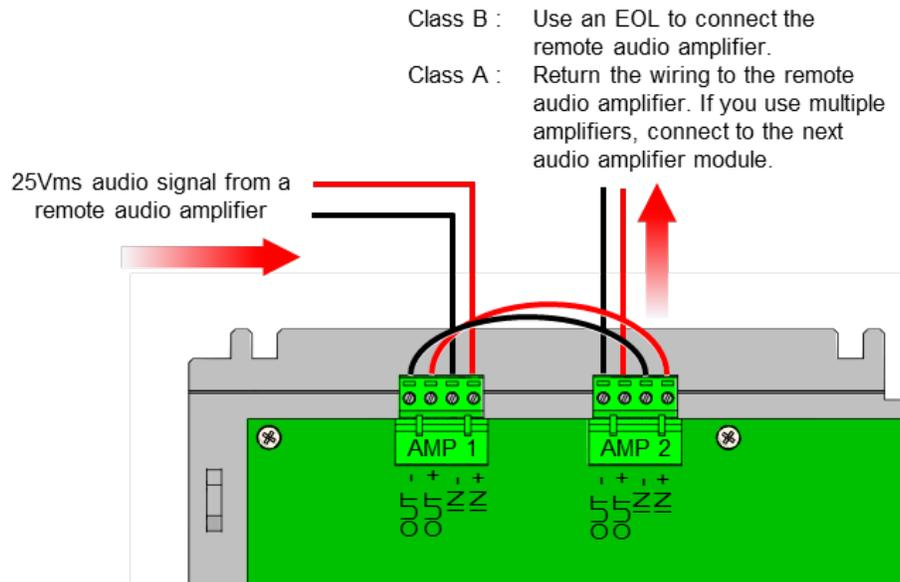

Figure 46 - Remote Audio Amplifier Wiring
2. Carefully slide the NX10-AMP-80 mounting plate tabs under the two left-side bottom tabs of the backbox (Figure 46).
3. Position the mounting plate on the two posts below the NX10-FACP base card and secure with the two (2) panhead screws (Figure 46).